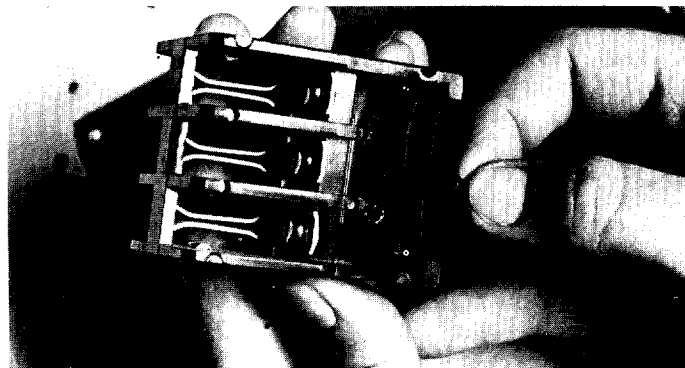
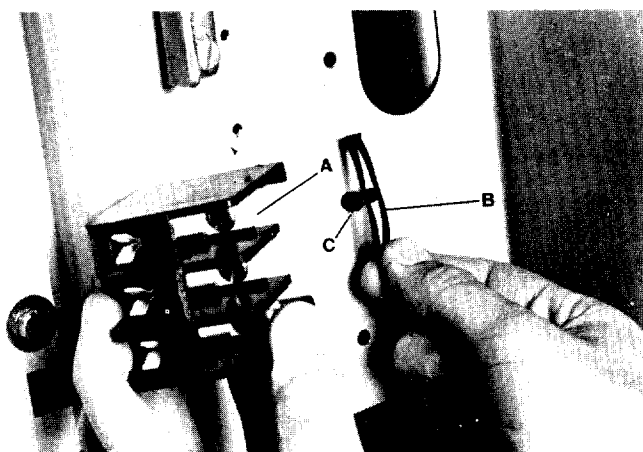

Figure 35. Position snap dart clip to retain terminal block.
Figure 36. Mounting terminal block.
3. If draw-out terminal blocks are furnished with the unit, install the fixed half of all draw-out blocks in the intended unit space in the section. Figures 35 and 36 show details of mounting. Location of these blocks is determined by alignment with the terminal blocks mounted on the right side of the starter unit. Insert slotted mounting tabs under screw heads (A), Figure 36. Snap dart clip (B) into hole (C), to retain terminal block in proper position. (To aid in the assembly of the dart clip, tool No. 272A5622NXG1 is available as an accessory.) Tighten screws (A). Power blocks to be mounted in the sections are furnished with a box-type lug and are normally to be mounted below control blocks. New style TB are mounted inside the unit, facing the wireway.